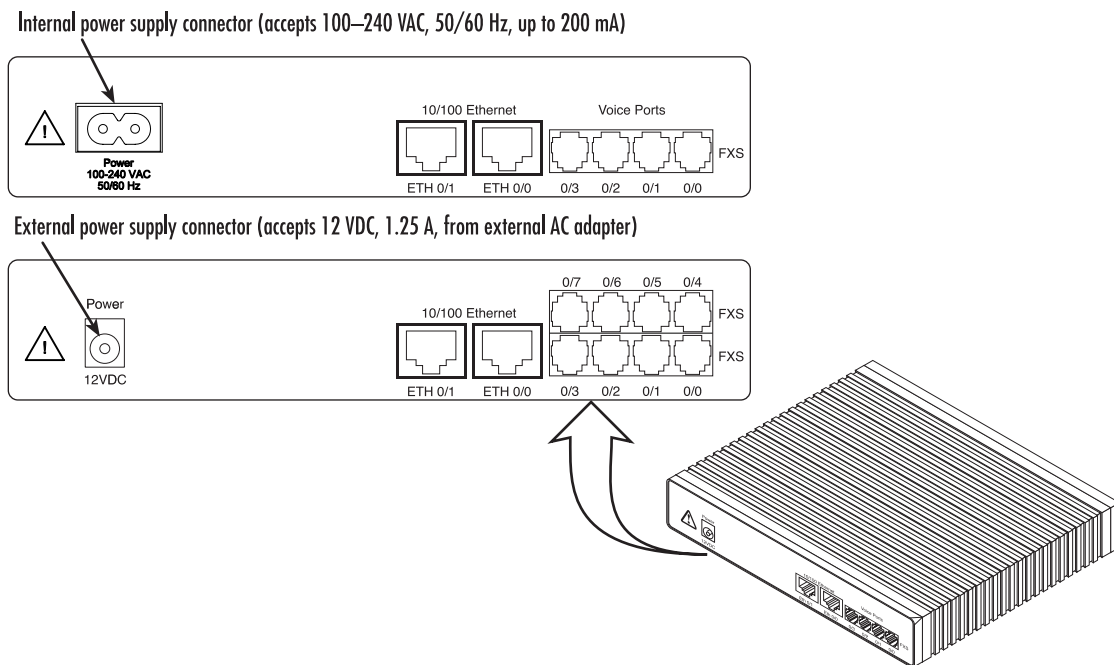

Figure 18. Power connector location on rear panel
1. If your unit is equipped with an internal power supply, go to step 2. Otherwise, insert the barrel type connector end of the AC power cord into the external power supply connector (see figure 18).
2. Insert the female end of the power cord into the internal power supply connector (see figure 18).